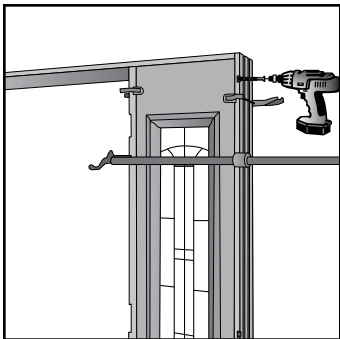

Fig. 17
- F. Anchor jamb leg to sidelight through back of rabbeted portion of jamb with 1-1/2" screws at top, bottom and center. More anchor screws may be necessary on larger sidelights (**Fig. 17**).